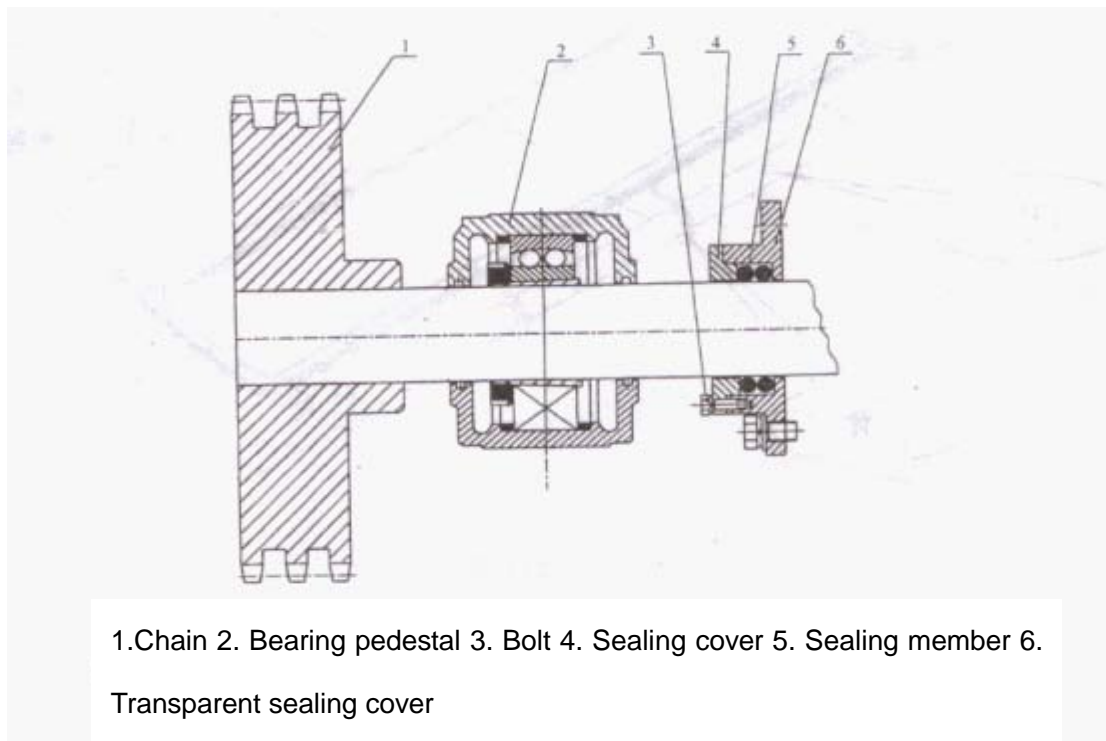

Fig. 10
10.1.5 If material leakage at shaft ends during operation is caused by the loose bolts on the sealing cover, it is necessary to screw them up tightly; if it is caused by aged sealing members, it is necessary to replace them timely. If there is not enough space for replacing the sealing members, the sprocket and bearing pedestal should be disassembled firstly, then the sealing gland, finally the sealing members should be replaced (see Fig. 10). For types of sealing members, see Table 5.